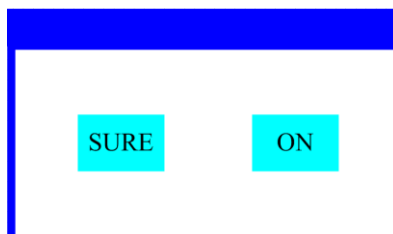

Figure 5 Dialog of confirm
- When the parameter is a key item, click corresponding item, a dialog shown in Figure 5 will be popup ask for the confirm. Click 'sure' to confirm.